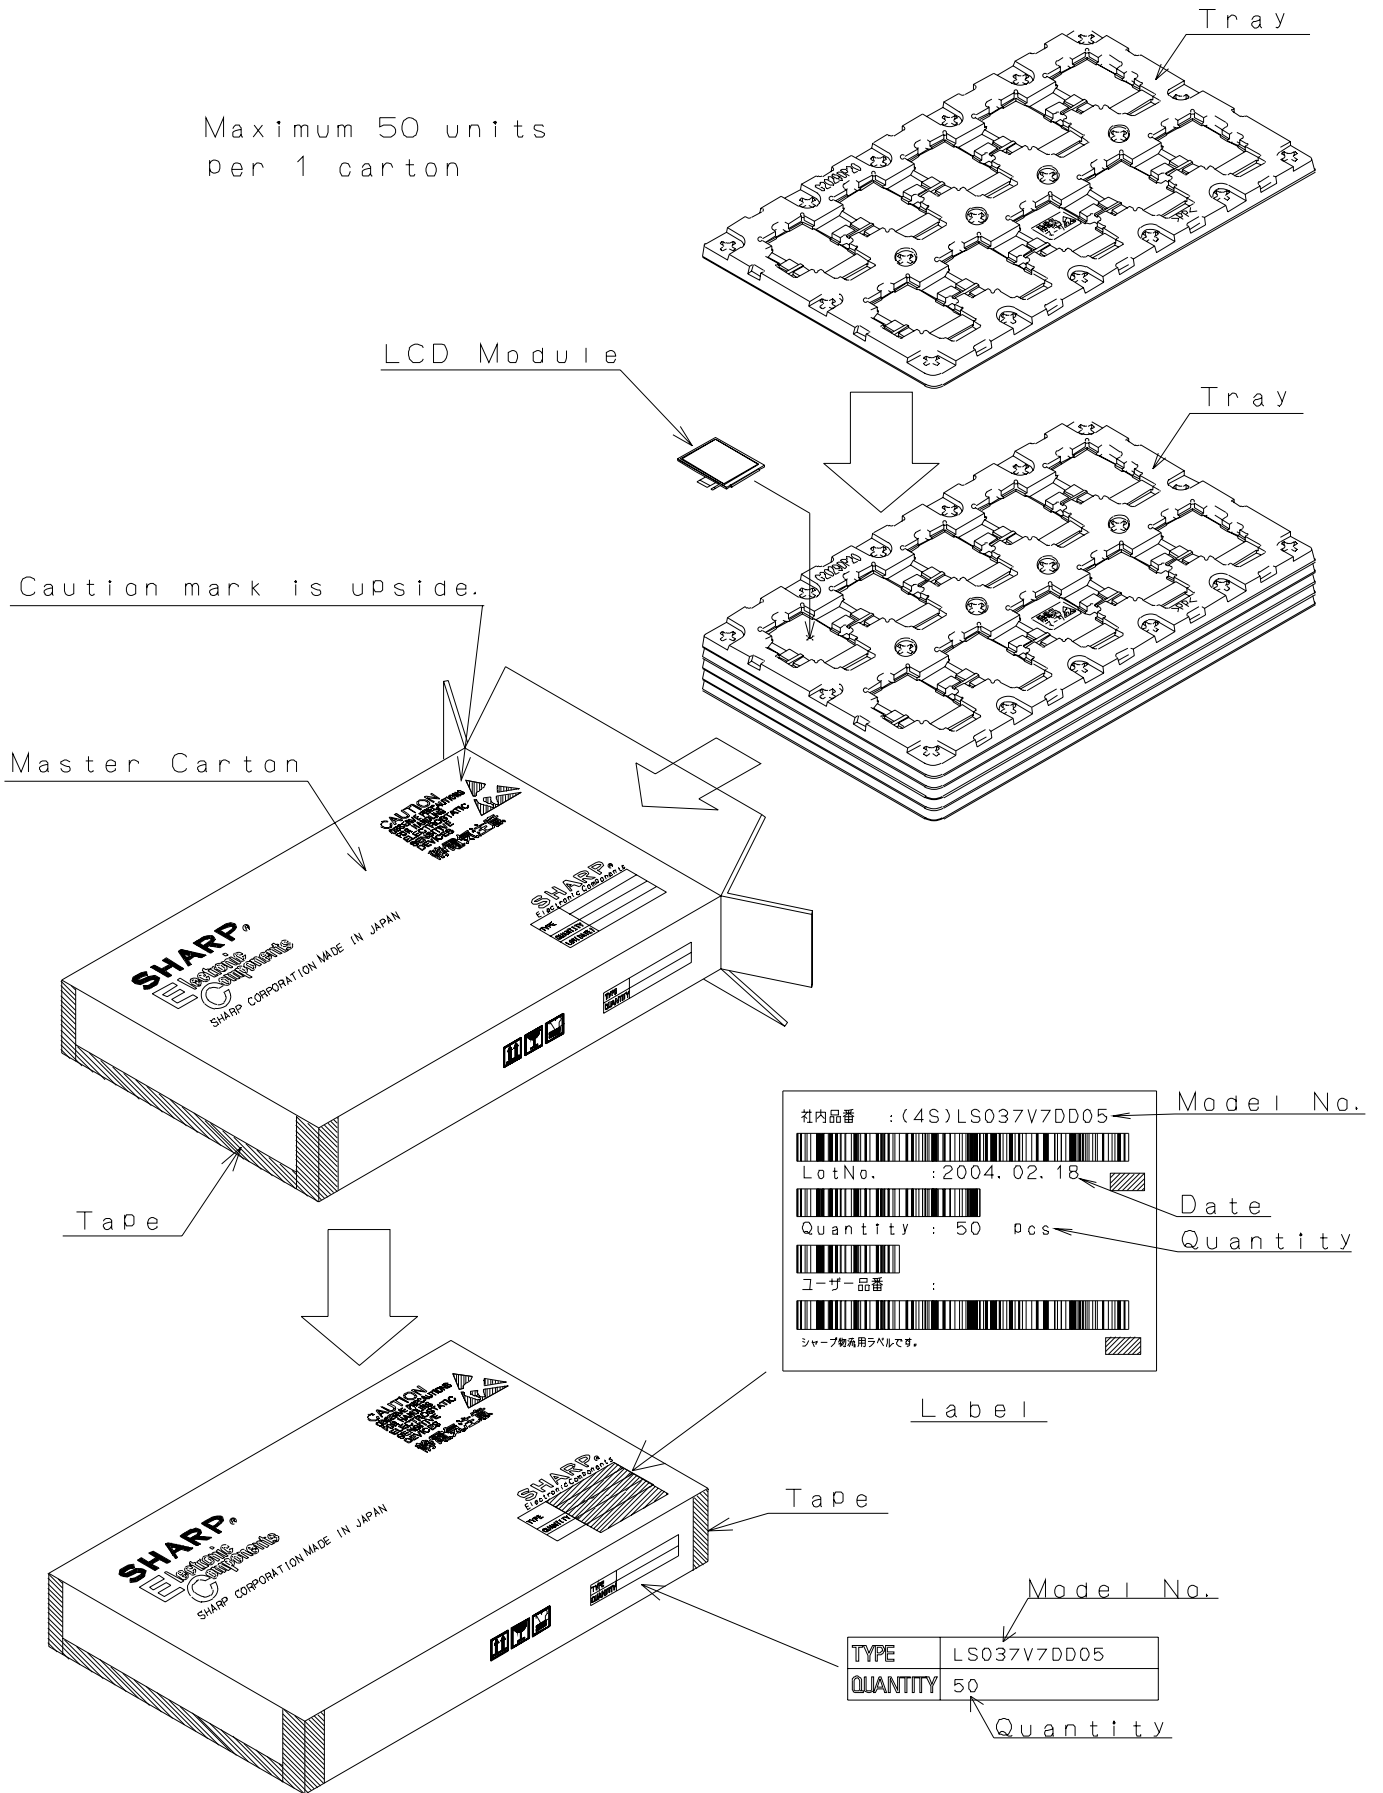

Fig2. Package Form (TBD)
(16) Forwarding form (see Fig. 2 Package Form)